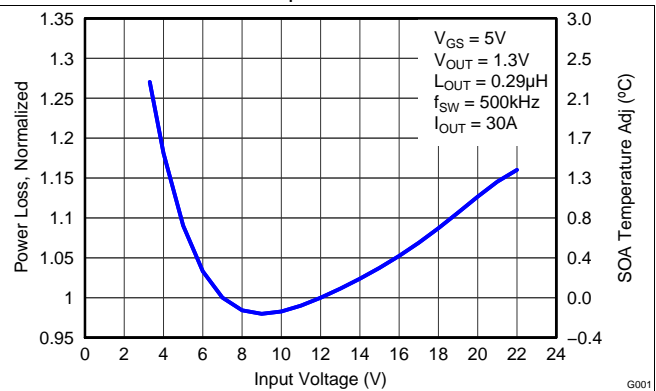

Figure 6. Normalized Power Loss vs Input Voltage
- Normalized Power Loss for input voltage  $\approx 1.18$  (Figure 6)
- SOA adjustment for input voltage  $\approx 1.5^\circ\text{C}$  (Figure 6)